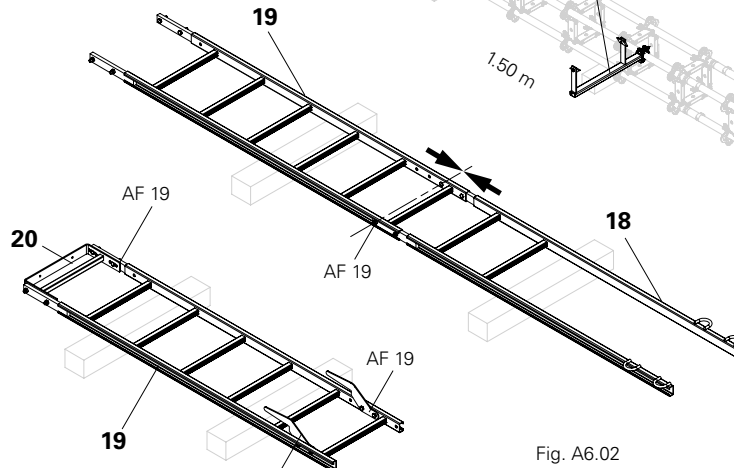

Fig. A6.02
3. Attach the ladder base (20) and ladder hook (21). (Fig. A6.02)